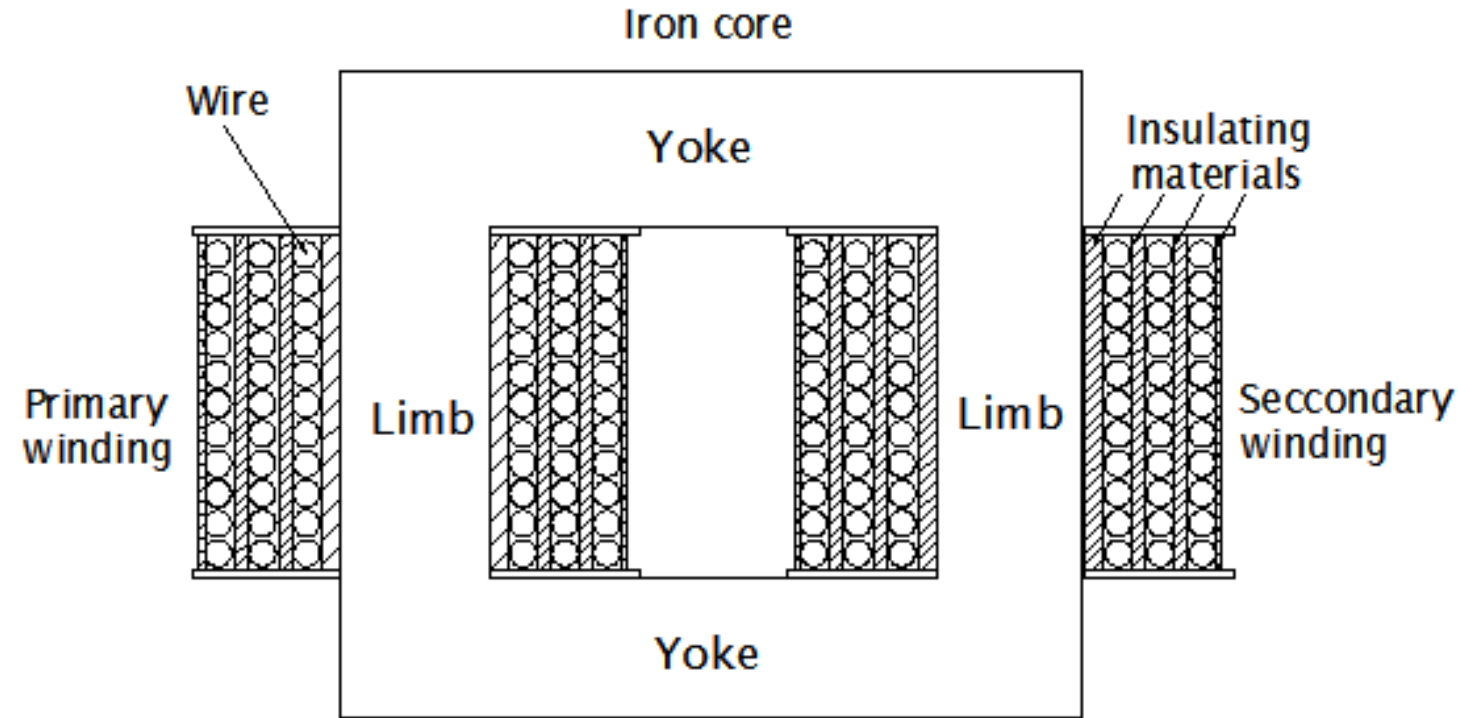

Fig.2.2 Basic construction of transformer
- Basically, a transformer consists of a rectangular window shaped iron core as shown in Fig.2.2. The horizontal part of the core is known as '**yoke**' and the vertical part of the core is known as '**limb**'.